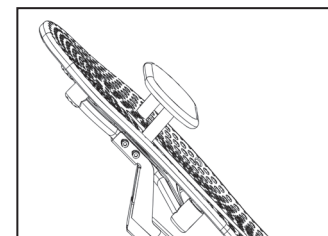

Figure 19
- Attach the Head Pillow by securing the Velcro straps through the holes in the Table Bed – the position of the pillow can be adjusted depending on the user (Figure 19).